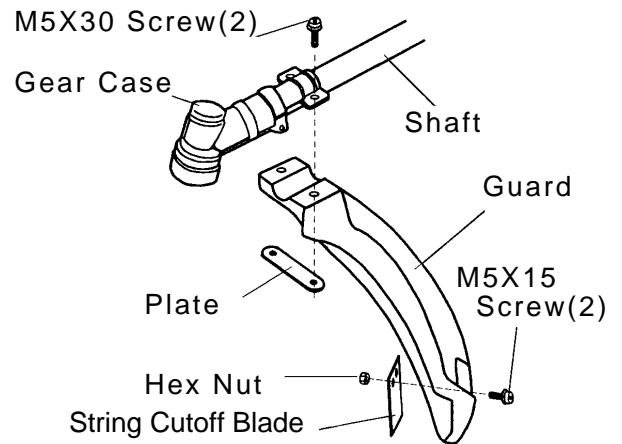

Fig.1
1. Fasten the string cutoff blade to the guard with M5×15 screws as shown on Fig.1.